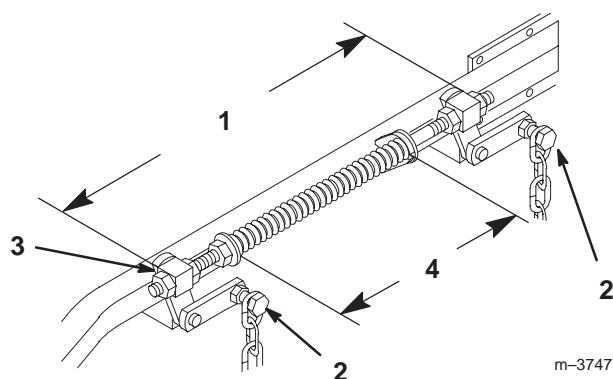

Figure 60
6. Loosen the four top chain bolts in slots. Check the length of the rod/swivel assemblies. Distance from outside of rear swivel to outside of front swivel should be 19–17/32 in. (496 mm) (Fig. 60). Make sure that all four swivels move freely in holes.
2. Springs are compressed so the distance between the two large washers should be 11 in. (279 mm) (Fig. 60).
3. Adjust by turning nut in front of each spring (Fig. 60). Clockwise will shorten spring; counter-clockwise will lengthen spring.